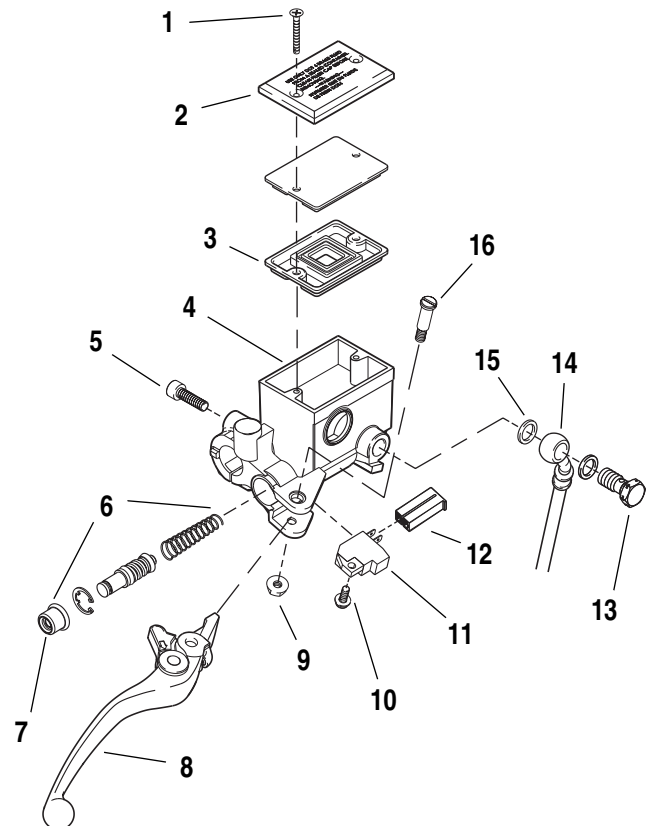
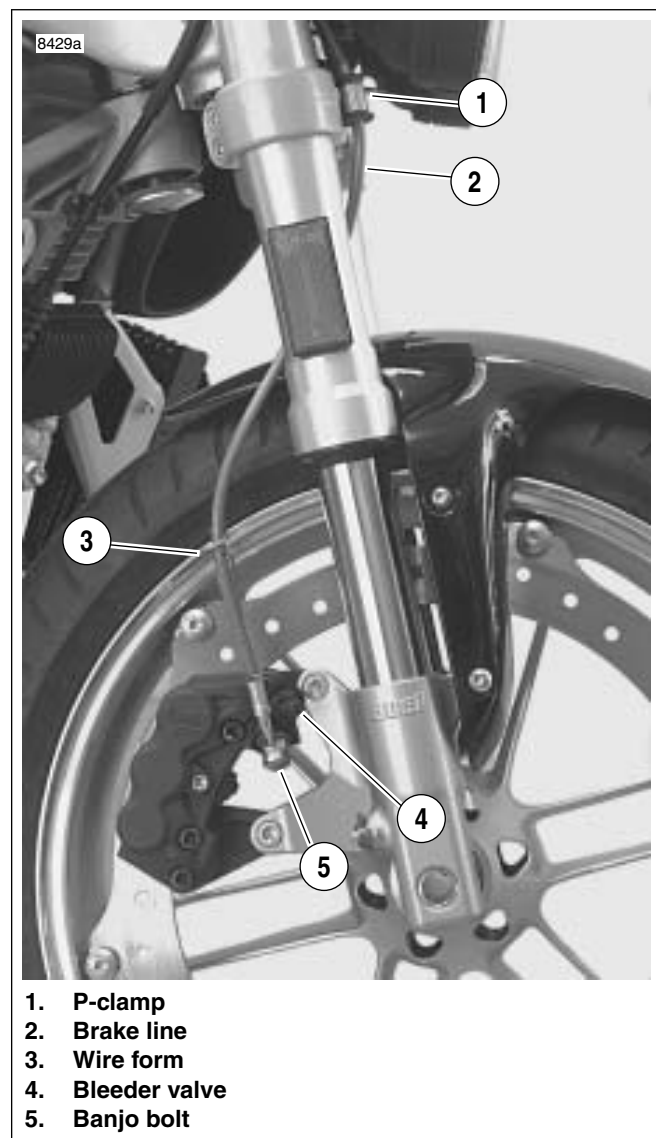

Figure 2-37. Front Brake Hand Lever Assembly
Figure 2-43. Front Brake Line
2. See Figure 2-37. Remove the banjo bolt (13) (metric) and two copper washers (15) to disconnect brake line (14) from master cylinder (4). Discard copper washers.
3. Unplug terminal (12) to detach brake lamp switch (11).
1. See Figure 2-37. Remove pivot bolt nut (9) (metric) and pivot bolt (16) from hand lever pivot.
2. Detach front brake hand lever assembly (8) from hand lever pivot.
3. Detach front brake lamp switch (11) by removing the switch fastener (10).
1. See Figure 2-37. Remove master cylinder cover (2) by removing cylinder cover fasteners (1).
3. Remove rubber boot (7) and discard.
5. See Figure 2-37. Remove piston assembly (6) from front master cylinder reservoir (4) and discard.
4. See Figure 2-37. Insert piston assembly (6), spring first, into master cylinder reservoir (4).
1. See Figure 2-37. Lubricate pivot bolt (16) with LOCTITE ANTI-SEIZE.
2. Align hole in hand lever (8) with hole in hand lever pivot and install pivot bolt (16) through top of hand lever pivot and tighten nut to 80-120 **in-lbs** (9-14 Nm).
1. See Figure 2-37. Install front brake lamp switch (11).
- a. Install brake lamp switch (11) with switch fastener (10) and tighten to 7-10 **in-lbs** (0.8-1.0 Nm).
- b. Connect brake switch terminal (12) to brake lamp switch (11).
3. See Figure 2-37. Connect brake line to master cylinder using two **new** copper washers (15) and banjo bolt (13) (metric) and tighten to 16-20 **ft-lbs** (22-27 Nm).
5. See Figure 2-37. Remove two master cylinder cover screws (1), cover (2) and cover gasket (3).
10. See Figure 2-37. Attach master cylinder cover (2) and cover gasket (3). Tighten two cover fasteners (1) to 9-13 **in-lbs** (1.0-1.5 Nm).
4. See Figure 2-37. Remove master cylinder banjo bolt (13) (metric) and two copper washers (15) to disconnect brake line from master cylinder (4). Discard copper washers.
1. See Figure 2-37. Connect brake line (14) to master cylinder (4) using two **new** copper washers (15) and a banjo bolt (13) (metric). Loosely install bolt into master cylinder.
- a. See Figure 2-43. Install **new** copper washer, brake line (2), **new** copper washer and wire form (3) onto banjo bolt (5).
- b. Finger tighten banjo bolt (5) onto front caliper being careful not to pinch wire form (3) while tightening, wire form should rotate around banjo bolt freely.
- c. Twist brake line (2) into wire form (3) spiral and clock wire form against bleeder valve (4).
5. Install and tighten p-clamp with fastener (1) on lower triple clamp to 36-60 in-lbs (4-7 Nm).
6. See Figure 2-37. Tighten master cylinder banjo bolt (13) (metric) to 16-20 ft-lbs (22-27 Nm).
7. See Figure 2-43. Tighten brake caliper banjo bolt (5) (metric) to 16-20 ft-lbs (22-27 Nm).